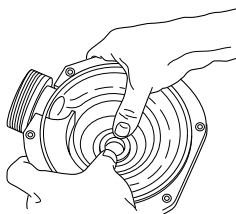

Figure 5
1. Ceramic seat must be clean and free of dirt, grease, dust, etc. Wet rubber cup gasket of ceramic seat with **small** amount of liquid detergent; press into cavity firmly and squarely with finger pressure (Figure 5).